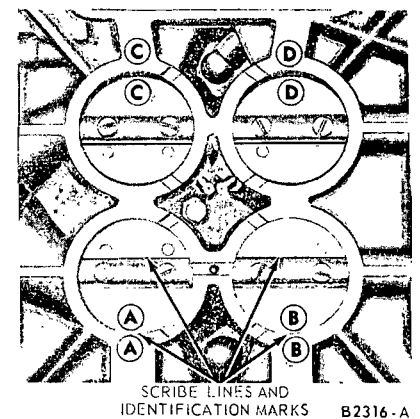

FIG. 23—Throttle Plate Removal
12. If it is necessary to remove the throttle plates, lightly scribe the primary and secondary throttle plates along the throttle shafts, and mark each plate and its corresponding bore with a number or letter for proper installation (Fig. 23).
Refer to the lines and identification marks scribed on the throttle plates (Fig. 23), and install the primary throttle plates in their proper location with the screws snug, but not tight. Invert the main body and hold it up to the light. Little or no